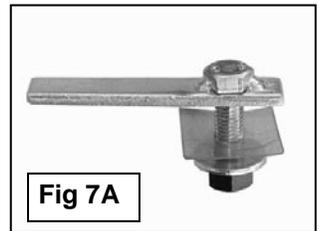
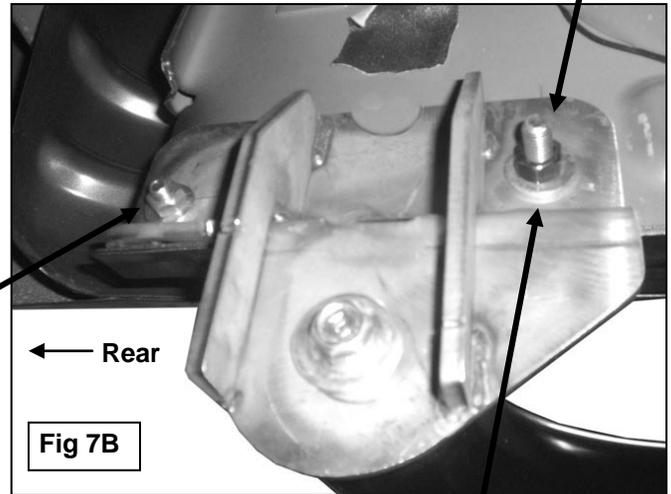
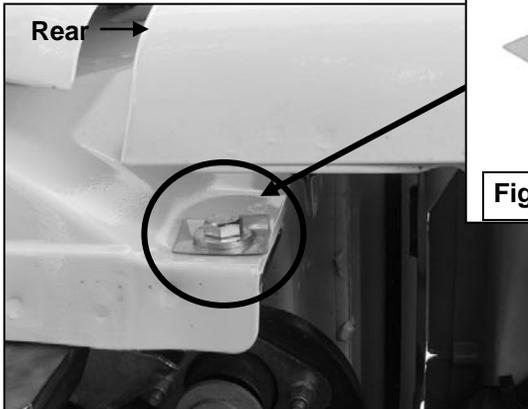

Fig 7A
Fig 7B
Fig 8A
7. Move toward the rear of the vehicle and remove the tape covering the holes on the inner body panel. Select (1) 12mm Bolt Plate and thread (1) 12mm Plastic Retainer part way onto it, **(Figure 7A)**. Insert the Bolt Plate and Retainer into the rear mounting hole, **(Figure 7B)**, as described in **Step 4**.
8. Hang the driver side Rear Mounting Bracket from the Bolt Plate and secure it with the included (1) 12mm Lock Washer, (1) 12mm Flat Washer, and (1) 12mm Hex Nut, **(Figure 7B)**. Insert (1) 10mm x 35mm Hex Bolt, (1) 10mm x 30mm OD Large Flat Washer with (1) 10mm Plastic Retainer into the hole at the rear of the Mounting Bracket from the outside-in, **(Figures 8A & 8B)**. **NOTE:** The Plastic Retainer is intended to protect the outer painted surface of the body. Thread the Plastic Retainer onto the Hex Bolt so that it is between the 10mm Large Flat Washer and the body. Secure the Bracket with (1) 10mm Lock Washer, (1) 10mm x 30mm Large Flat Washer and (1) 10mm Hex Nut. Do not tighten hardware at this time.